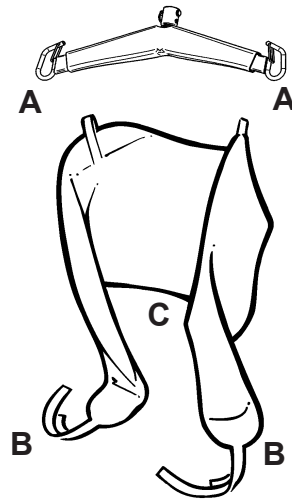

Figure 35
Once the loop sling has been fitted around the resident there are three methods of applying the loop sling, with each of the three methods described it is necessary to first connect each shoulder loop (points **A**), of the sling to the (same side) hook on the spreader bar. *See figure 35.*
**Method 1:** With the sling correctly positioned around the resident, slide the left hand leg section of the sling under the resident's left thigh and the right hand leg section under the resident's right thigh, attach each leg loop (points **B** figure 35) of the sling to the "opposite side" outer hook on the spreader bar. *See figure 36.*
**Method 2:** With the sling correctly positioned around the resident, pass each leg section of the sling under both thighs of the resident, then attach each leg loop (points **B** figure 35) to the outer hook (opposite side) on the spreader bar. *See figure 37.*
**Method 3:** With the sling correctly positioned around the resident, slide the left hand leg section of the sling under the resident's left thigh and the right hand leg section under the resident's right thigh, then attach each leg loop (points **B** figure 35) to the same side hook on the spreader bar. *See figure 38.*
If the resident can sit easily, the sling can be positioned the same way as if the resident was seated in a chair: i.e. by easing the resident forward, (if necessary) slide the sling down the resident's back until seam **C** (*see figure 35*) reaches the base of the spine. Take attachment points **B** and pass the leg sections of the sling underneath the residents thighs, as appropriate to the method of lifting (*see following Methods*) ensure the sling sections are not twisted underneath the resident.